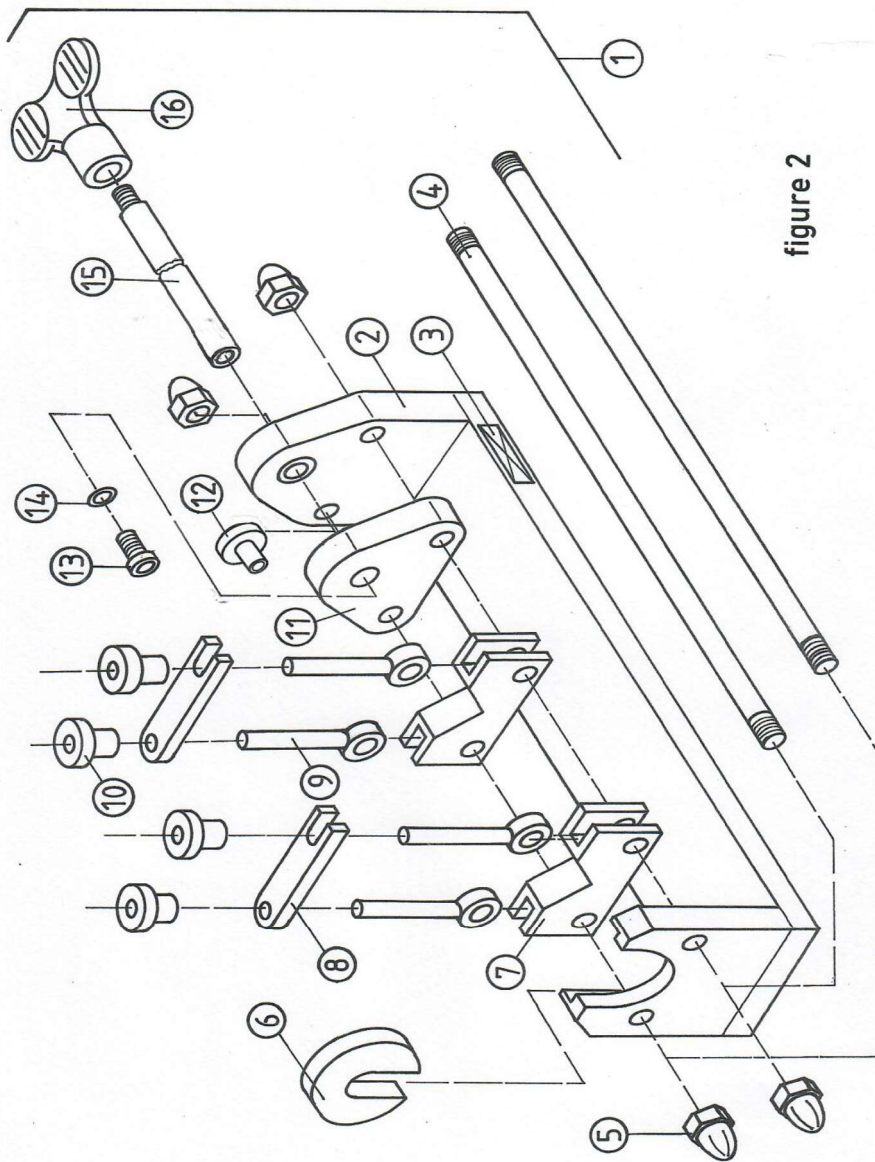

figure 2
See figure 2. Keep the eye bolts (6), knurled knobs (3) and threaded spindle (5) free of dust and grease these steel parts lightly to prevent corrosion and friction/galling.